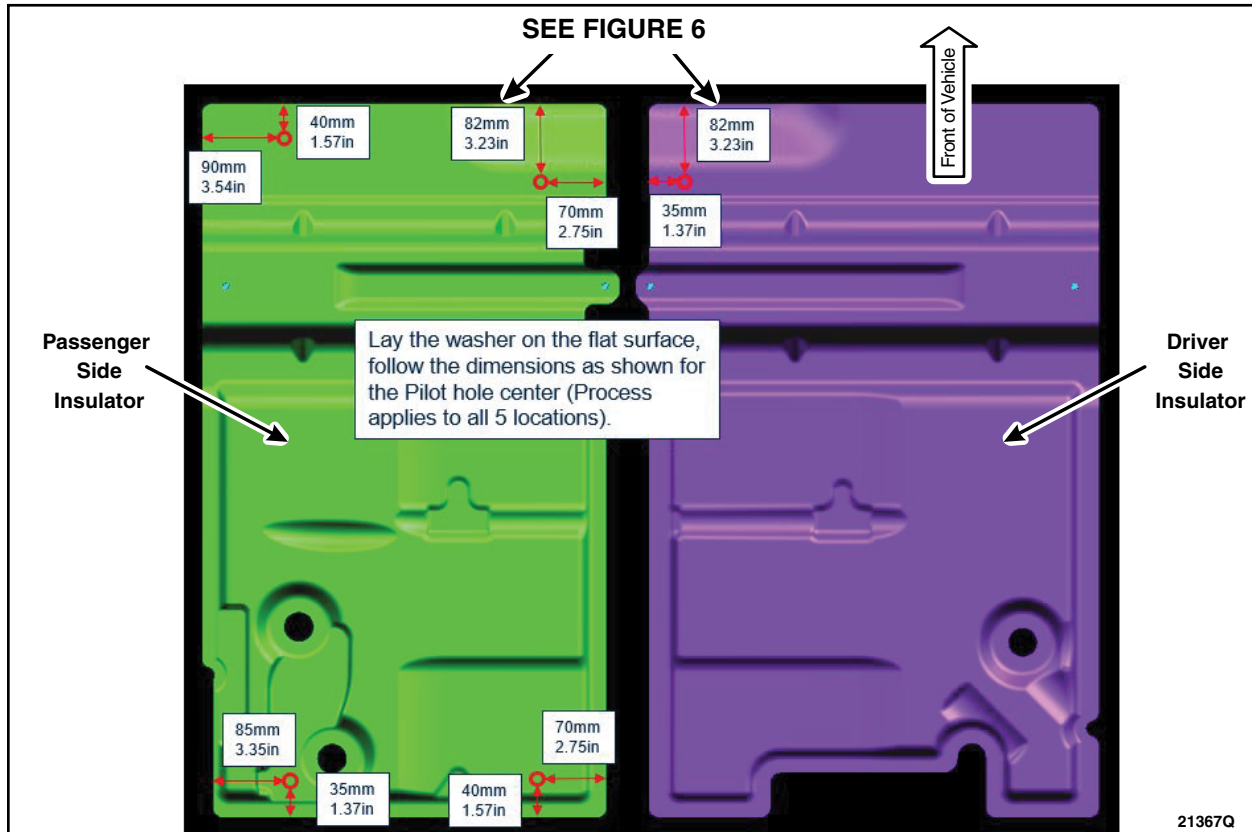

FIGURE 5
9. Measure and mark the four locations on the passenger side insulator and mark the one location on the driver side insulator. See Figures 5 and 6.